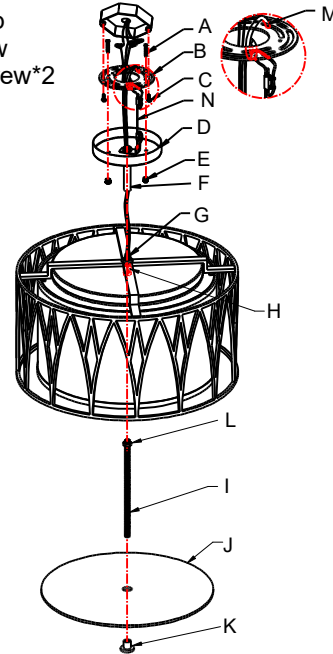

Fig. 2
CONNECTING THE WIRES (Fig. 2)
7. At this point, connect the fixture wires to the outlet box wires as shown in Fig. 2, making sure that all wire connectors are secured. If your outlet has a ground wire (green or bare copper), connect the fixture's ground wire to it. Otherwise, connect the fixture's ground wire directly to the circular strap (B) using the green screw provided.